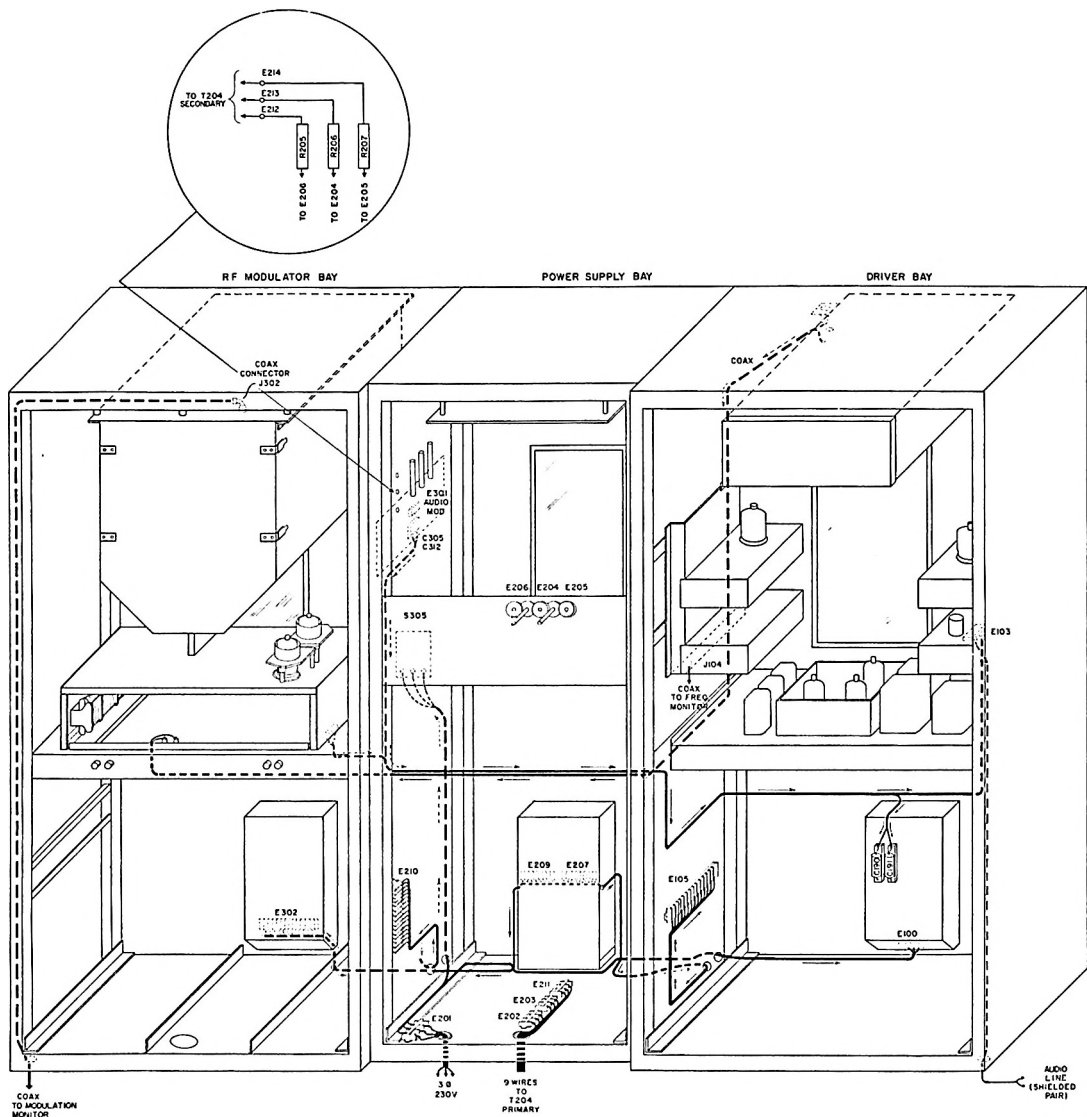

Figure 2-2. Cabling Details
power wires and ground wire through the base holes progressively as the power cabinet frame is shoved into position. See figure 2-2.
e. Feed the interconnecting cables from the power cabinet through the side-walls of the amplifier and driver cabinets. See figure 2-2.
d. Install and connect the audio compensating board as shown in figures 2-2 and 6-2.
f. Install surge resistors R205, R206, and R207. (See figure 2-2.)
- n. Make all other base connections at this time. See figures 2-2 and 7-5.
- i. Complete all internal connections, including interchassis cables and connections, to terminal boards E101 and E102 on the rear of the low voltage power shelf. Refer to installation connections diagram figure 2-2, to interunit cable diagram figure 7-3, and to tags on the wires for assistance in making the proper connections.
Nine wires connect the high voltage power transformer T204 to connector blocks E202, E203, and E211. See figure 2-2. These wires enter the power cabinet through
the right-hand 1-1/2-inch grommet. Cut these to length, and connect them to their terminations with solder lugs. Be very careful to observe correct phasing here. See cabling schematic, figure 7-4, and pictorial diagram, figures 2-2 and 2-3, for proper transformer connections. Incorrect phasing will result in shortened rectifier tube life.
Coaxial frequency monitor connector J104 is located on the bottom of the r-f chassis as shown in figure 2-2. The transmitter is shipped with a mating plug connected to J104. Bring a piece of RG-8/U coaxial cable through the proper hole in the floor of the cabinet as shown in figure 2-1. Connect the coax to the plug associated with connector J104.
Coaxial modulation monitor connector J302 is supplied with the proper mating plug. Figure 2-2 shows this connector located on the top of the r-f output network box. Thread a piece of RG-8/U coaxial cable through the proper hole in the floor of the cabinet as shown in figure 2-2. Connect the coax to the plug associated with connector J302.